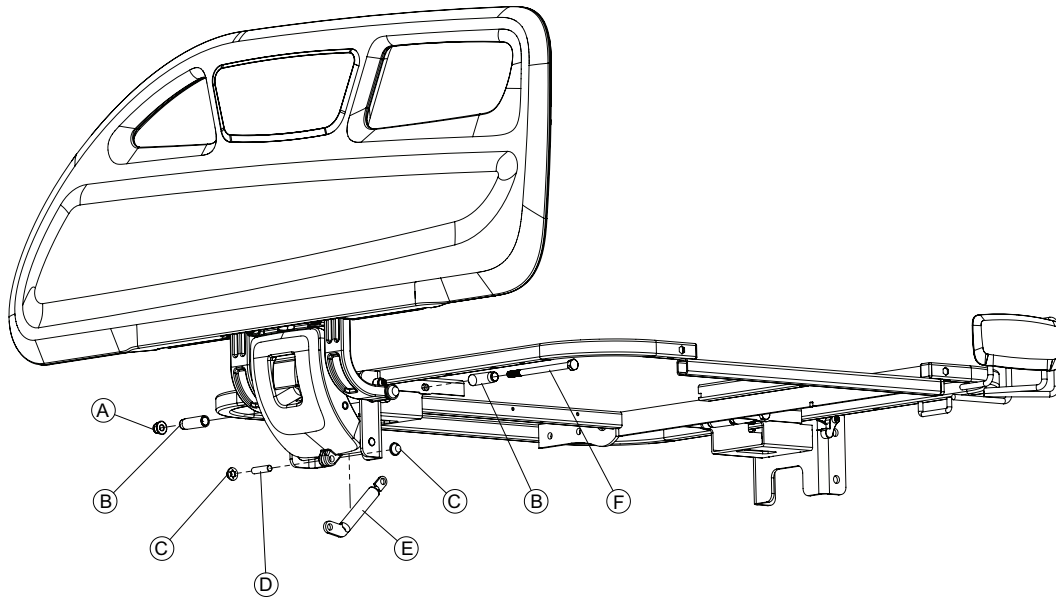

Figure 19 – Siderail gas cylinder, head left assembly
5. Using a 3/8" drive ratchet and a 13 mm socket with a 13 mm combination wrench, remove the bolt (F), spacers (B), and nut (A) that secure the head end siderail gas cylinder to the Fowler backrest frame. Discard the bolt, spacers, and nut (Figure 19).
6. Using a large slotted screwdriver and a hammer, remove one of the hat-shaped segments (C) that secure the bottom of the head end siderail gas cylinder (E) to the siderail mechanism. Discard the hat-shaped segment.
7. Remove and discard the pivot pin (D) and the head end siderail gas cylinder (E).